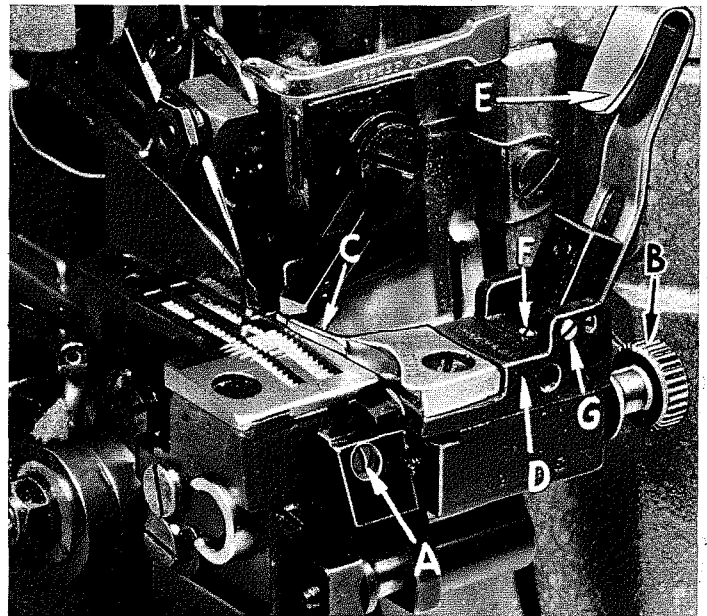

Fig. 15
Assemble the hemming guide support bracket onto the lower knife support bracket by means of screw (A, Fig. 15). With the knurled adjusting screw (B), set the edge guide (C) so that the left side of its tip is even with and parallel to the right side of the right feed slot in the throat plate.
Adjust the edge guide (C, Fig. 15) by turning the knurled adjusting screw (B) so that the stitches are located in the folded edge, yet do not show on the face of the fabric. Adjust the overhanging guide (E) so that the space between its guiding edge and the edge guide corresponds with the thickness of the material to be hemmed. Adjust the stop screw (F) for the overhanging guide so that the tip of the overhanging guide is located at the center of the edge guide vertically. If desired, the overhanging guide can be locked into position by tightening the locking screw (G) located in the hinge block and edge guide support bracket (D).